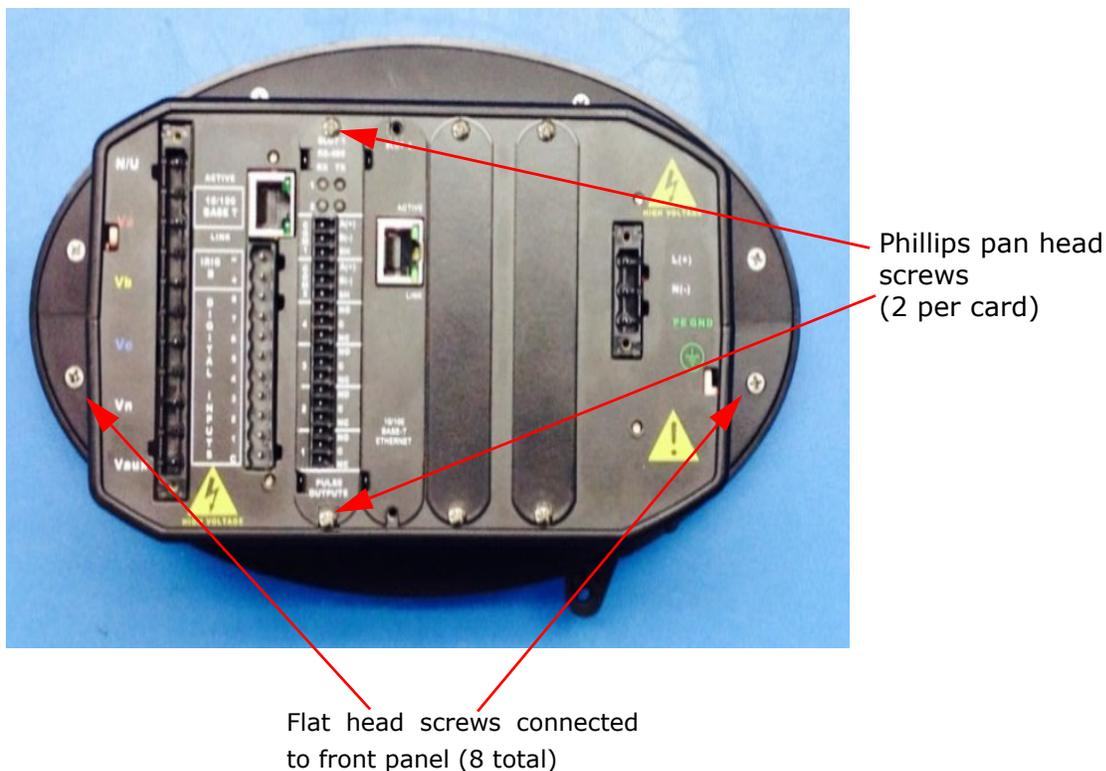

Figure 3.6: Location of Meter Screws
1. Turn the meter over and remove all of the option cards. Each option card is secured with two ¼ Phillips pan head screws (see 11: Using the I/O Options, on page 11-1). Refer to Figure 3.6